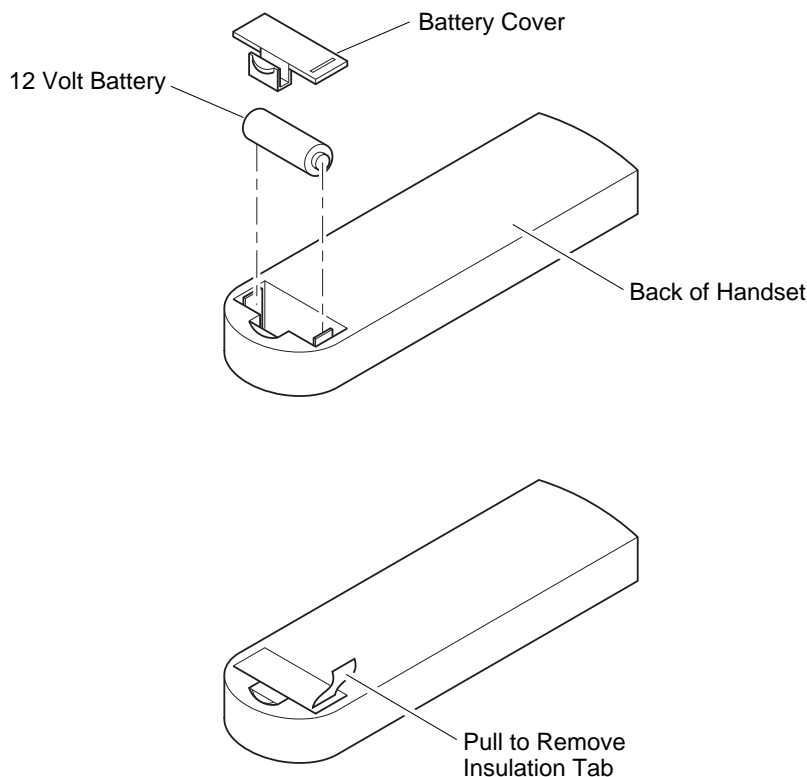

Figure 13 - Installing Battery into Back of Handset
2. Activate the remote handset battery by removing the insulating tab on the back of the handset (see Figure 13). The battery is included pre-installed.